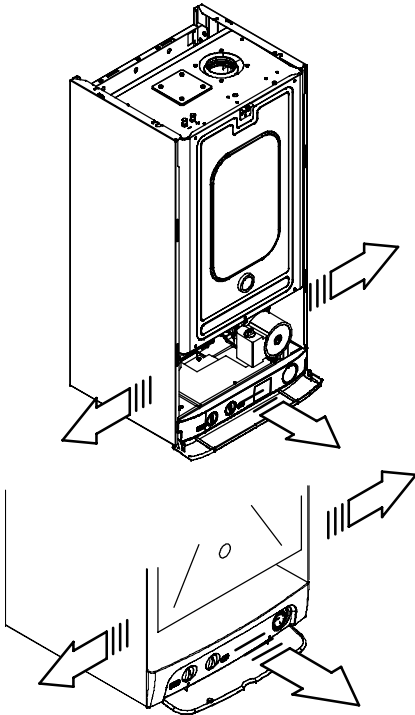

Fig. 6.11
- 4 Remove the side panels or move the lower part of the side panels as indicated in Fig. 6.11 and pull the control panel. When completely pulled out, the panel can ro-